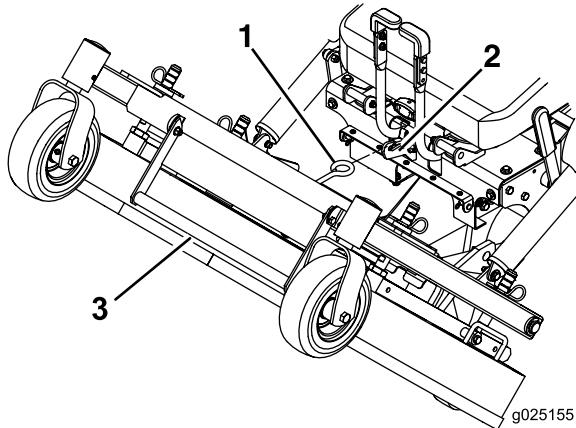

Figure 20
- Using deck-lift handle, lift deck up and latch in up position (latch is located at front center of seat) (Figure 20).
1. While firmly holding onto deck-lift handle, unhook mower deck latch from the machine and slowly lower mower deck to ground (Figure 20).